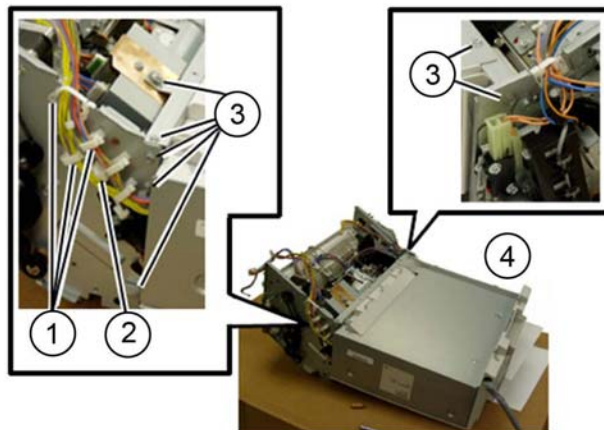

Figure 3 Stacker tray removal
8. Remove the stacker tray, Figure 3:
- a. Release the harness from the five clamps (1).
- b. Disconnect the connector (2).
- c. Remove seven screws (3).
- d. Remove the stacker tray (4).